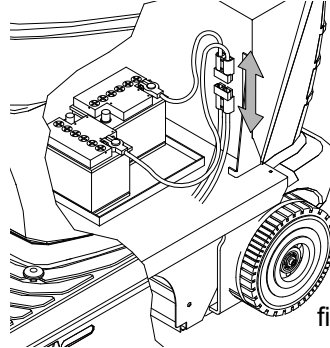

fig. 19
- unplug the battery connector from the machine (fig. 19).